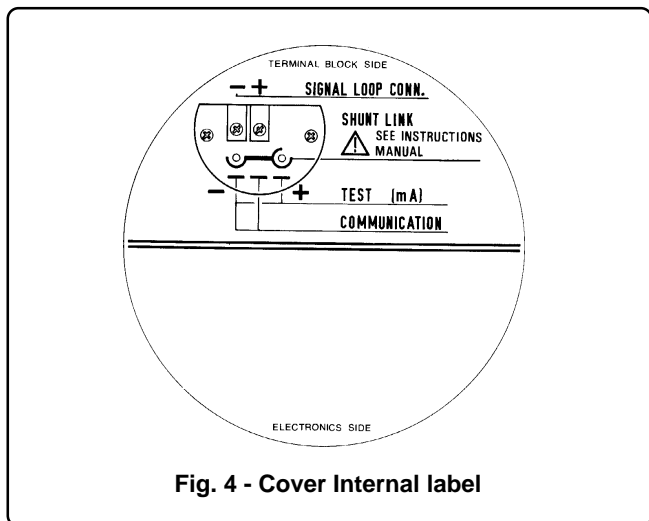

Fig. 4 - Cover Internal label
- 2) Remove the cover on the terminal block side; inside of which is affixed the label shown in Fig. 4.